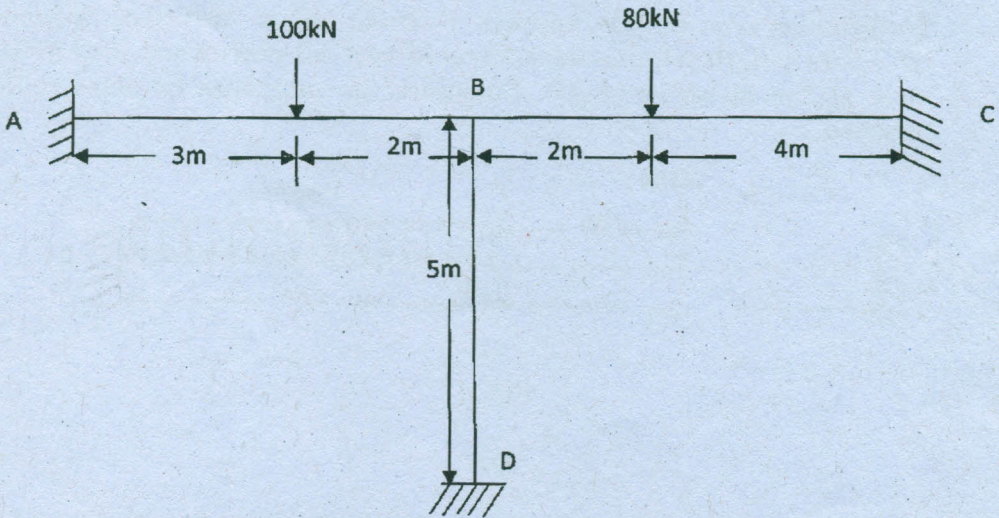

Fig. 7
- (b) Analyse the structure loaded as in Fig. 7 by using moment distribution method and draw the bending moment and shear force diagrams.